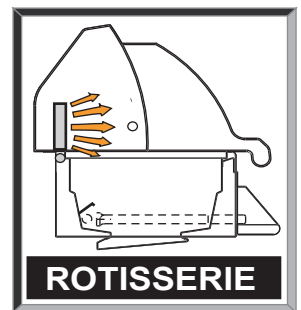

Figure 14b
- The **Rotisserie burner**, if equipped, delivers the succulent self-basted flavors of chickens, ducks and hams or pork, beef and lamb roasts that only rotisserie cooking can achieve. Also, the radiant infrared unit ensures that you will be enjoying the results much sooner. (Fig. 14b)